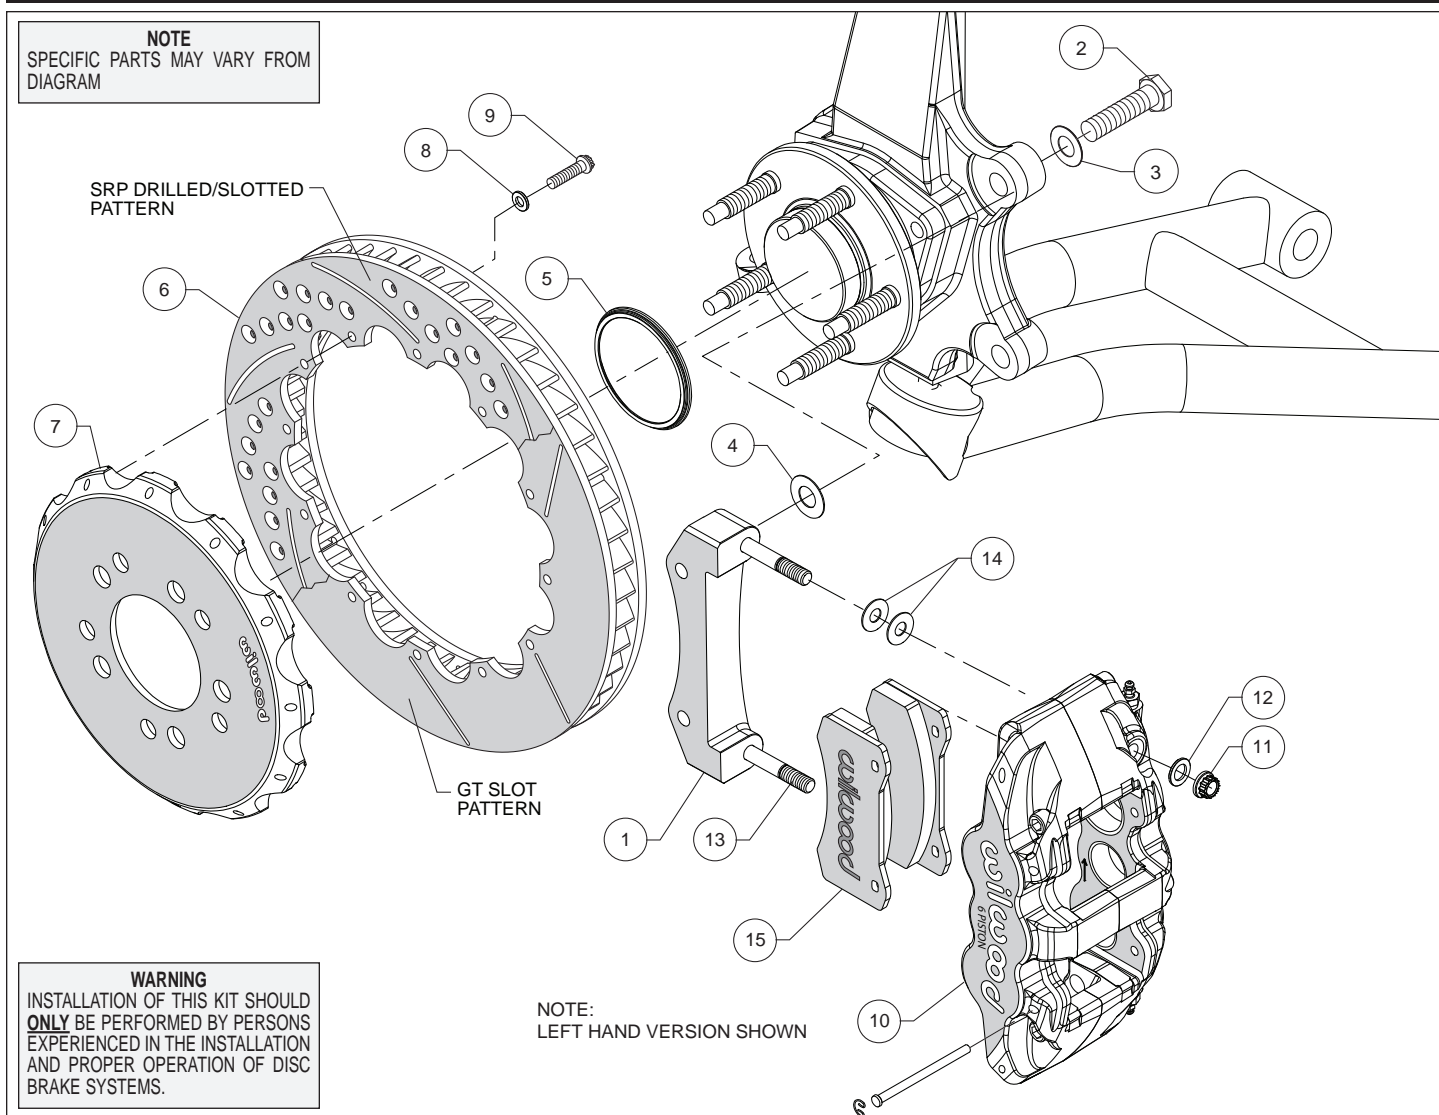
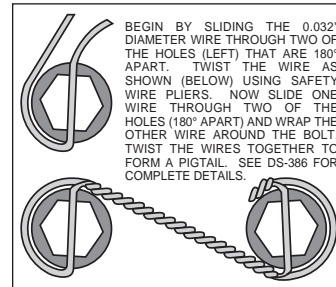

Figure 1. Typical Installation Configuration
Figure 3. Safety Wire Diagram
**Assembly Instructions** (numbers in parenthesis refer to the parts list and Figure 1 on the preceding pages):
- The caliper mount bracket (1) should initially be installed with clean, dry threads on the mounting bolts. Orient the bracket as shown in Figure 1, and install using bolts (2) and washers (3). Initially place one .029 thick shim (4) on each bolt between the bracket and upright, Figure 1. Temporarily tighten the mounting bolts. **NOTE:** *The bracket must fit squarely against the mount bosses on the upright.* Inspect for interference from casting irregularities, machining ridges, burrs, etc. Later, after the caliper alignment has been checked, the mount bolts will be secured using red *Loctite*® 271.
- Orient the rotor (6) and the hat (7) as shown in Figure 1 and Photo 1. Attach rotor to hat using bolts (9) and washers (8). Using an alternating sequence, apply red *Loctite*® 271 to the threads, and torque to 155 **in-lbs**. For an added measure of security, the bolts may be safety wired using standard 0.032 inch diameter stainless steel safety wire as shown in Figure 3. Please refer to Wilwood's data sheet DS-386 (available at [www.wilwood.com/Pdf/DataSheets/ds386.pdf](http://www.wilwood.com/Pdf/DataSheets/ds386.pdf)) for complete safety wire installation instructions.
- Slide the rotor registration adapter (5) onto the axle register on the hub assembly with the smaller O.D. facing outward, Photo 2. Slide the hat/rotor assembly (6/7) onto the hub assembly. **NOTE:** *The hat must fit flush against the hub flange or excessive rotor run out may result.* Install three lug nuts (finger tight) to keep the hat/rotor assembly in place while continuing with the installation.
- NOTE:** *This kit contains distinct right and left hand calipers that must be mounted in a specific direction, as described below.* Lubricate the caliper mounting studs (13) with lightweight oil. Initially place two .035" thick shims (14) on each stud as shown in Figure 1 and Photo 3. Mount the caliper (10) onto the bracket (1) using lock nuts (11) and washers (12), Figure 1. Ensure that the caliper is mounted so that the largest pistons are at the rotor exit end of the caliper, in relation to the direction of rotor rotation. Temporarily tighten the lock nuts and view the rotor through the top opening of the caliper. The rotor should be centered in the caliper, Photo 4. If not, adjust by adding or subtracting shims (4) between the bracket and the upright. Always use the same amount of shims on each of the two mounting bolts. Once the caliper alignment is correct, remove the bracket mounting bolts (2) one at a time, apply red *Loctite*® 271 to the threads, and torque to 77 ft-lb.
- Remove the two pad retaining pins from the caliper (10) by carefully popping out the pin retaining clips and sliding out the pins. Insert the brake pads (15) into the caliper from the bottom, Figure 1 and Photo 5. With the friction material facing the rotor, secure the brake pads in place with the pad retaining pins and clips, Photo 6. Reinstall the caliper onto the caliper mounting bracket and temporarily tighten the lock nuts. Check that the top of the brake pad is flush with the outside diameter of the rotor, Photo 7. If not, adjust by adding or subtracting shims (14) between the caliper and the bracket. After the caliper pad height is set, torque the caliper lock nuts (11) to 47 ft-lb.